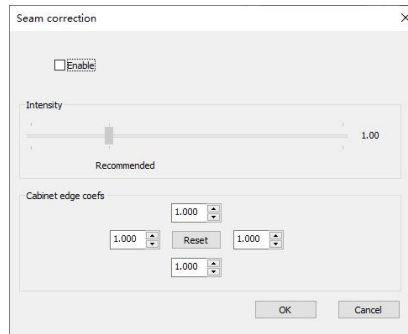

Fig.4-59 Seam Correction
- **Seam correction:** This function is enabled by default. You can disable it according to your need. See Figure 4-59.